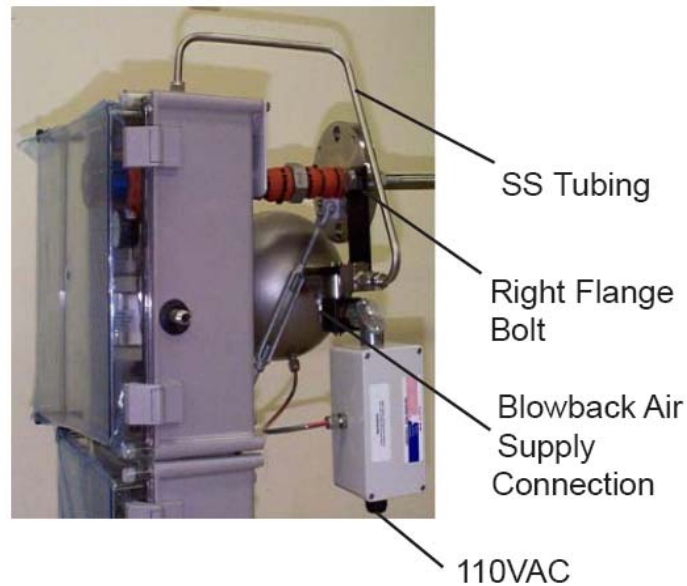

Figure 13
6. If system is being installed with automatic filter blow back option, install blow back system on right flange bolt (refer to Figures 13 and 19).